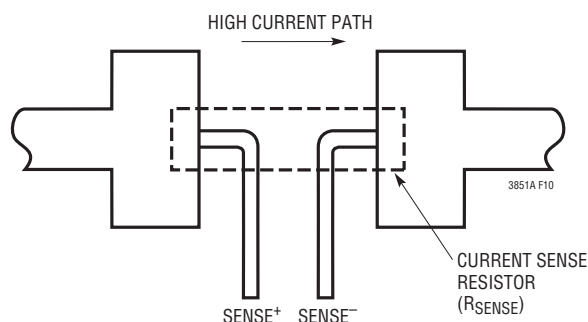

Figure 10. Kelvin Sensing R_{SENSE}
- Are the $SENSE^-$ and $SENSE^+$ leads routed together with minimum PC trace spacing? The filter capacitor between $SENSE^+$ and $SENSE^-$ should be as close as possible to the LTC3851A. Ensure accurate current sensing with Kelvin connections as shown in Figure 10. Series resistance can be added to the $SENSE$ lines to increase noise rejection and to compensate for the ESL of R_{SENSE} .
- Keep the switching node (SW), top gate node (TG) and boost node (BOOST) away from sensitive small-signal nodes, especially from the voltage and current sensing feedback pins. All of these nodes have very large and fast moving signals and therefore should be kept on the *output side* (Pin 9 to Pin 16) of the LTC3851AEGN and occupy minimum PC trace area.